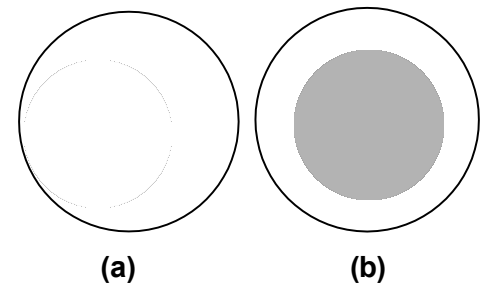

Fig.13
- Turn the condenser focus knob to slowly lower and raise the condenser till a dark spot showed in the viewing field as shown in **Fig. 13 (a)**.
- Turn the condenser translational centering screws to move the dark spot to the center as shown in **Fig. 13 (b)**.